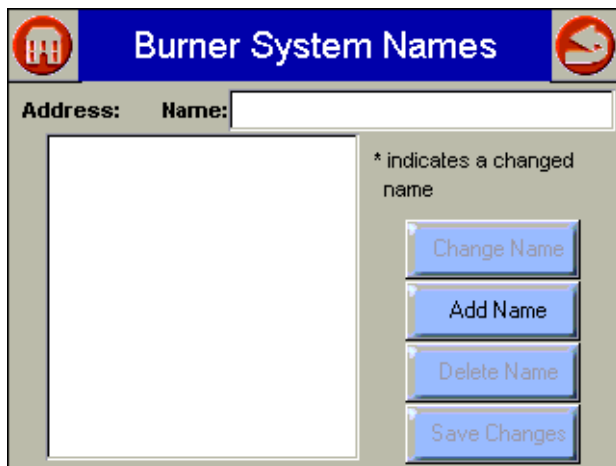

Fig. 99. Burner System Names setup.
The user can name the different burner/boiler systems on the Modbus™ with custom names that show up on all monitor page titles. The user selects the “BURNER SYSTEMS” or “BOILER SYSTEMS” button to rename the burner/boiler systems and the Burner System Names page displays (Fig. 99). The S7999B uses “Burner System 1-99” or “Boiler System 1-99” as default names which match the Modbus™ address, unless a custom name is defined for it.
1. Select “Add Name” button (Fig. 99).